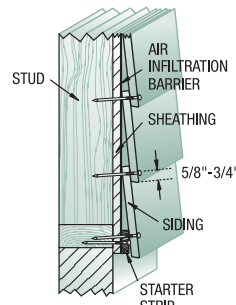

FIG. 4
- Although not recommended, where 24" o.c. vertical framing is used, wood-based sheathing is required. Follow product specific nailing pattern (See Fig 4) and nail to framing 24" o.c. with intermediate nailing 12 o.c. to sheathing.
- For **Standard Lap** products overlap successive courses at least 1." See Fig 4.
- Nail lap products 5/8" to 3/4" above the drip edge. Be sure nails penetrate through both pieces of siding and into studs. See Fig 4 & 5.